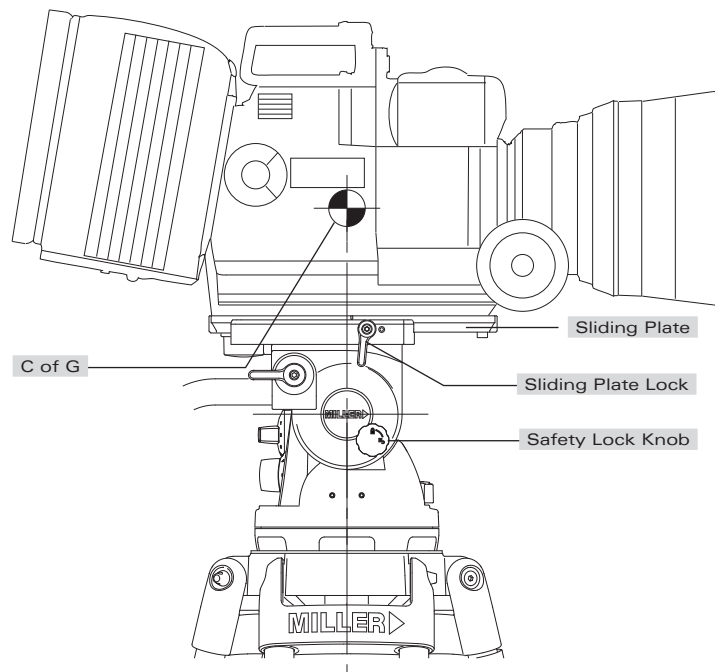

Fig. 5
- 2.6 Release the SLIDING PLATFORM LOCK and slide the SLIDING PLATFORM such that the camera's C of G is directly above the centre axis of the Fluid Head and tighten the SLIDING PLATFORM LOCK (fig.5). If this can not be achieved then reposition the CAMERA PLATE on the Camera - step 2.4. This will ensure that the system has maximum stability.